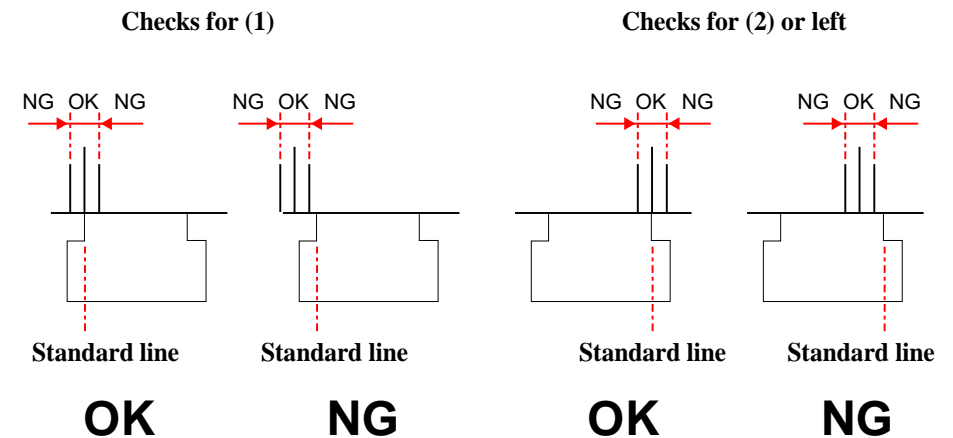

Figure 5-59. Adjustment pattern (zoom)
- See Figure 5-59 and check if the standard line for the Waste Ink Pad for the borderless printing is within the OK range.